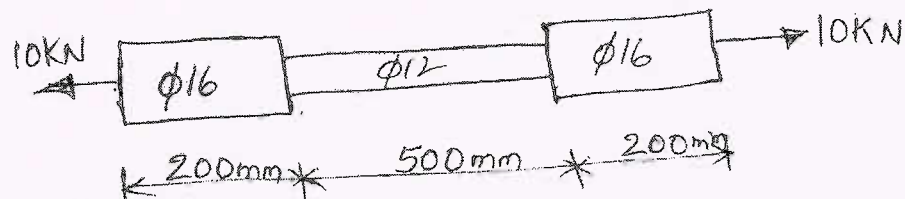

Fig. Q10 (b)
- b. The bar with circular cross section shown in Fig. Q10 (b) is subjected to a load of 10 KN. Determine the strain energy stored in it. Take $E = 2.1 \times 10^5 \text{ N/mm}^2$ (10 Marks)